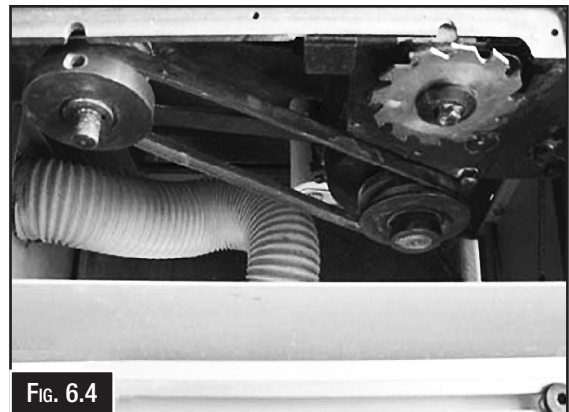

FIG. 6.4
4. Remove the blade guard from the riving knife to expose the mounting assembly. (Fig. 6.4)